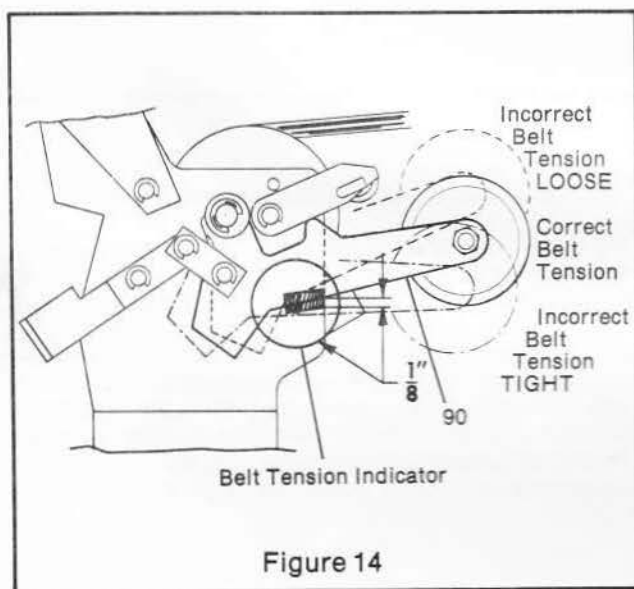
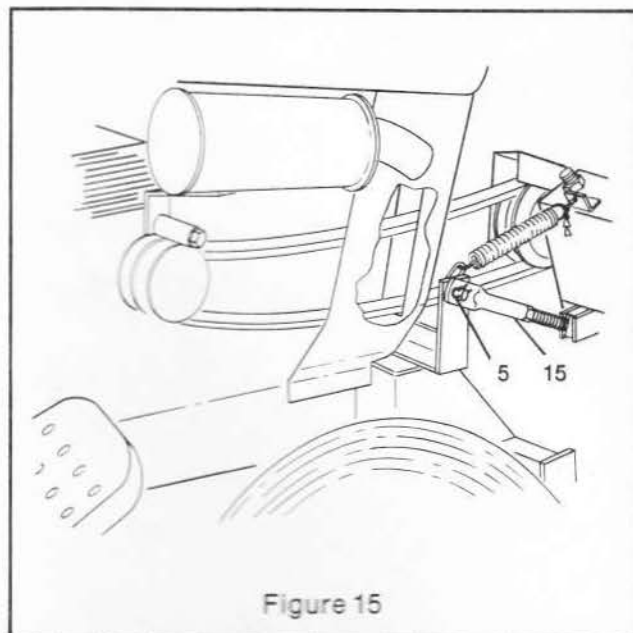
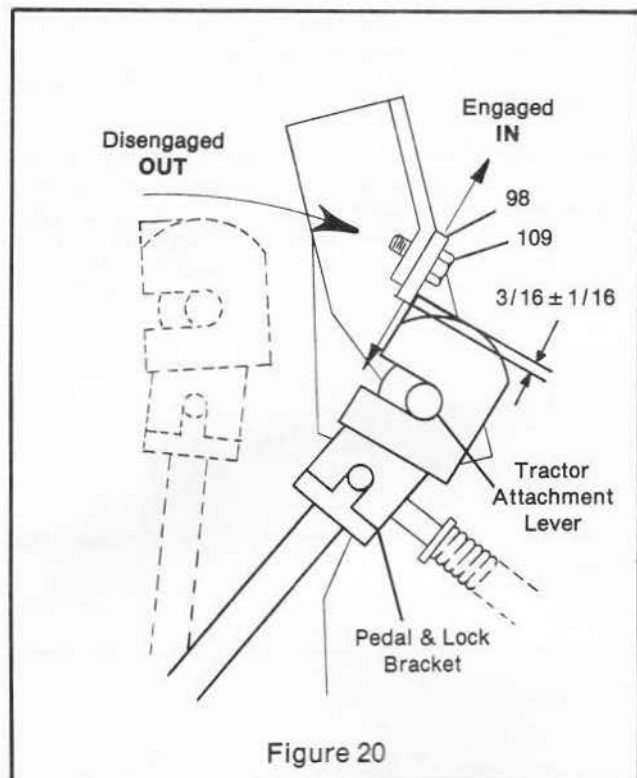

Figure 14
Figure 15
Figure 20
- A.) Remove pulley cover, (See Figure 14, Page 6 of your Tractor Owner's Manual).
- C.) Assemble V-belt (108) between pulley (21) and belt guard (18), placing V-belt on pulley (21).
- D.) Place V-belt (108) through hole in right hand side of Tractor grille, loop V-belt (108) around engine pulley and locate in first groove of engine pulley.
- E.) Assemble lock washer (112) and belt guide (105) onto hex bolt (104), furnished in Parts Bag, replacing hex bolt removed in Step (B) above.
STEP 17 (Figure 14, 15 & 20) V-Belt Adjustment
- C.) When Tractor attachment clutch lever is in the engaged (in) position, correct belt tension is shown by Figure 14.
- D.) To adjust V-belt tension, move Tractor attachment lever to (out) disengaged position (Figure 20) remove hair pin (5) from anchor pin (Figure 15). Slide lift arm (15) off anchor pin. Turn lift arm counter-clockwise to increase V-belt tension and clockwise to decrease V-belt tension. Adjust both arms equally to keep unit square with Tractor. Replace lift arms and secure with hair pins. Move Tractor attachment clutch arm lever to engaged (in) position and check clutch arm (90) for proper setting. Repeat process if necessary to obtain proper V-belt tension as shown in Figure 14.
The lock lever adjustment plate (98) locks Tractor attachment lever into engaged (in) position. Lock lever adjustment plate (98) must engage pedal & lock bracket (81) by $3/16"$. (Figure 20).
- C.) Loosen hex bolt (109) adjust as required and retighten securely.